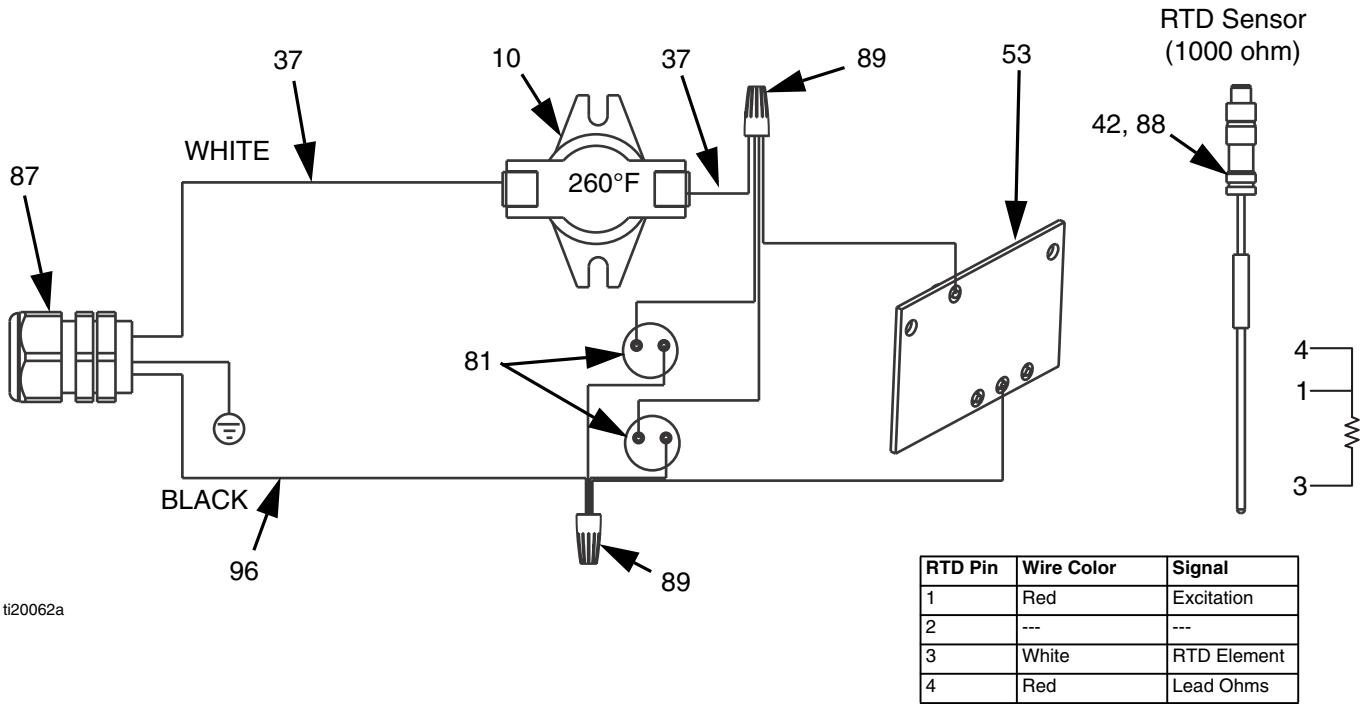
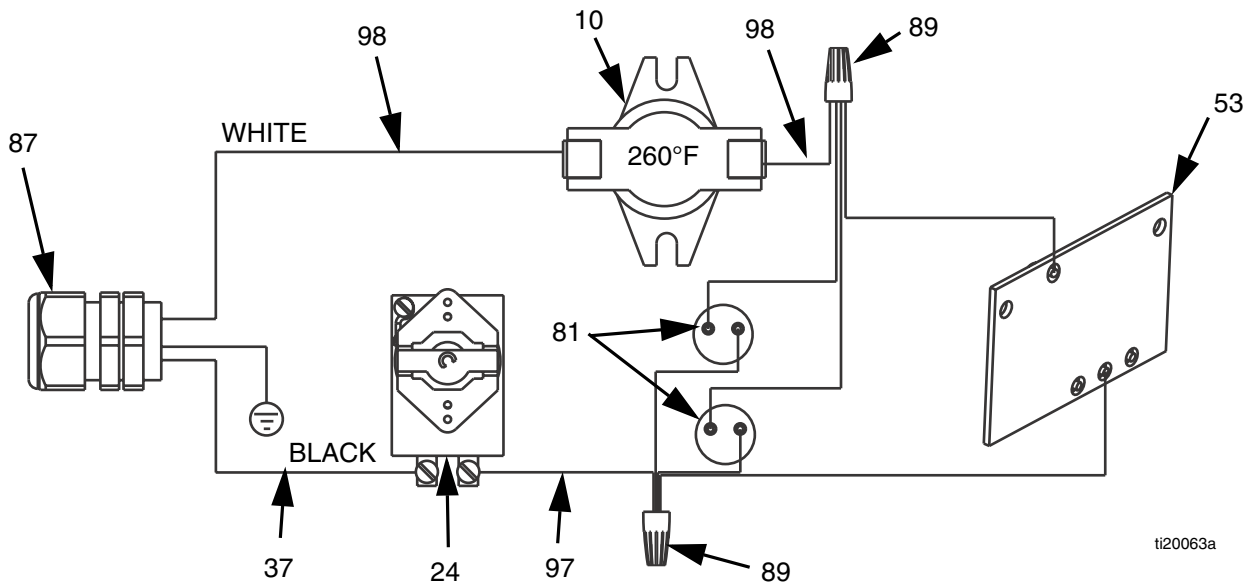

FIG. 8: Electrical Schematic - 262853 Heater with RTD
FIG. 9: Electrical Schematic - 24P016 Heater with Thermostat
- Refer to FIG. 8 or FIG. 9 for wiring connections.
- Make sure gasket (47) is installed and aligned with electrical housing screw holes.
- Secure cover (18) with screws (52). Torque screws to 89 in-lb (10 N•m).
4. Perform **Heater Core Removal and Fluid Passage Unclogging** procedure on page 19. This includes removing the inlet housing (65).
5. With the inlet housing removed, remove 5 screws (52) and cover (18).
6. Disconnect wires from heater cartridges (81).
7. Remove pipe plug (95) and springs (31) from bottom of core (68).
9. Wire new cartridges per FIG. 8 or FIG. 9, page 15.